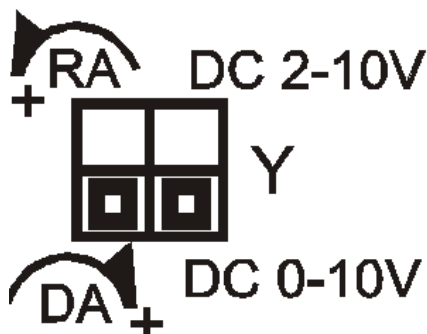

Figure 12: VA9104-GGA Factory Switch Setting
For Reverse Acting (RA) operation, a minimum control signal drives the actuator to the full CW position and a maximum signal drives the actuator to the full CCW position. To change the factory settings, remove the actuator cover and adjust the switches on the circuit board as shown in Figure 12.